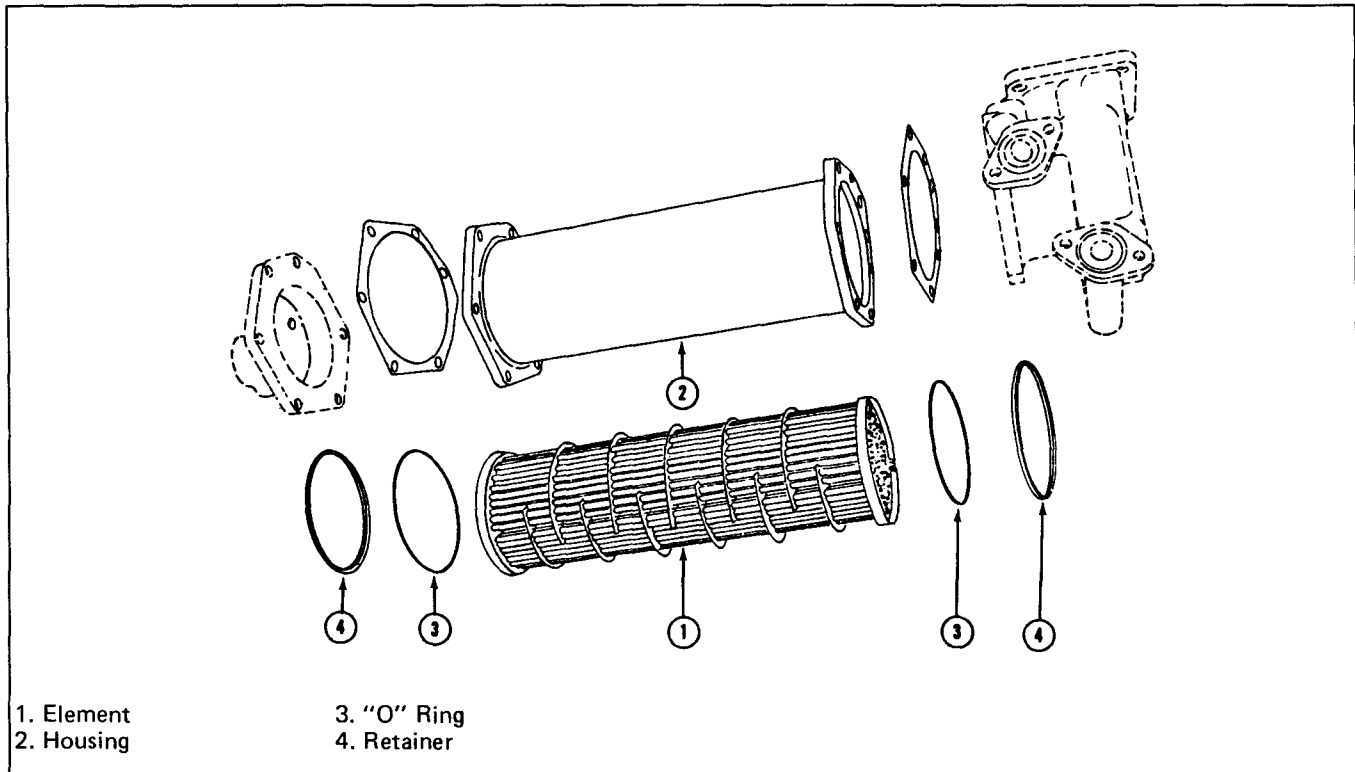

Fig. 7-2, (N10741). Lubricating oil cooler — exploded view
1. Remove cooler, cover, support and gaskets from cooler housing (2, Fig. 7-2) if not previously removed.
2. Remove retainer rings (4) from housing (2).
3. Remove exposed "O" ring (3) under retainer, being careful not to scratch or mar sealing surface on element.
5. To remove element (1) from housing (2):
6. Discard "O" rings (3) and retainers (4).
- Lubricate new rubber "O" ring (3, Fig. 7-2);